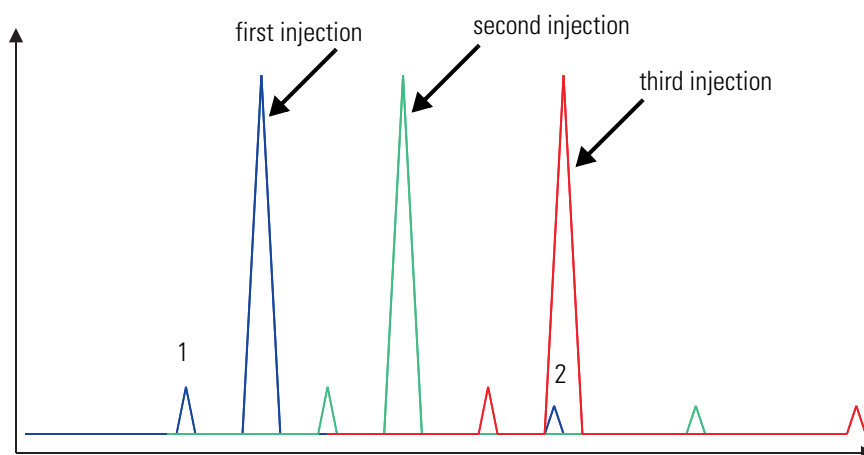

Figure 12-2. Upon retention times - combining chromatograms
If water is present in the substance mix in the loop, it arrives after about 300 s. The situation is complicated furthermore by the repeated loop injection that is normally performed to enhance the accuracy of the measurement. This repeated loop injection causes the peaks to “stack” in the chromatogram thus sometimes hiding important impurities. This is given in Figure 12-2 which shows combined chromatograms.
1. Air peak precedes CO₂. See **1** in Figure 12-2.
2. Water peak may follow CO₂ but must not interfere with CO₂. See **2** in Figure 12-2.